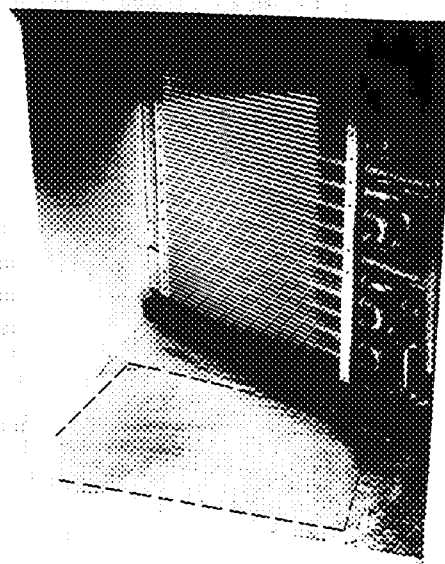

Fig. 14 — Lance Location for Vertical Duct Opening Cover
3. Locate lances in basepan insulation that are placed over the perimeter of the vertical duct opening cover (Fig. 14).